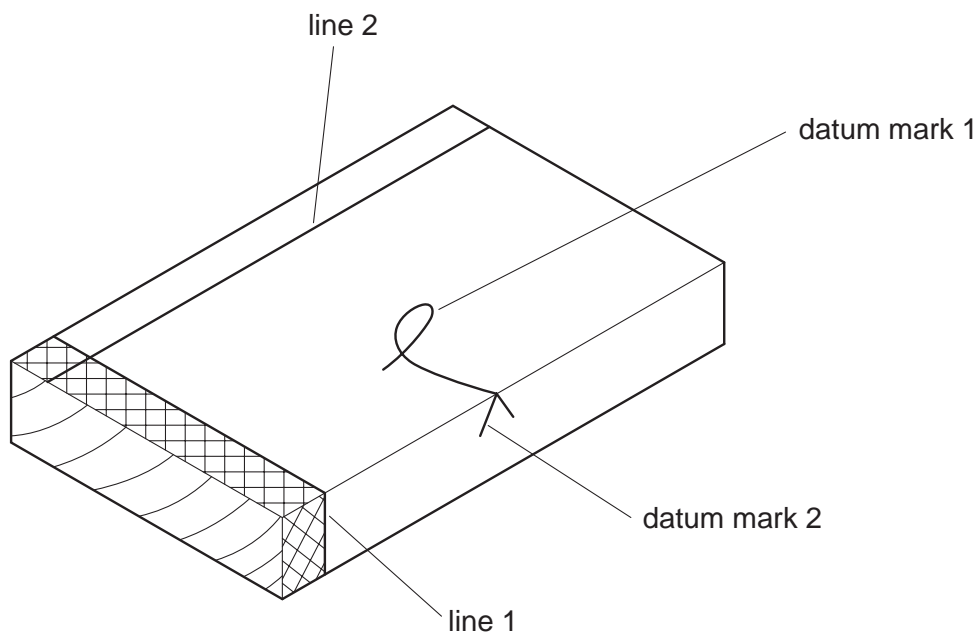

Fig. 3
- 4 Fig. 3 shows a piece of wood marked out ready for preparing to size.